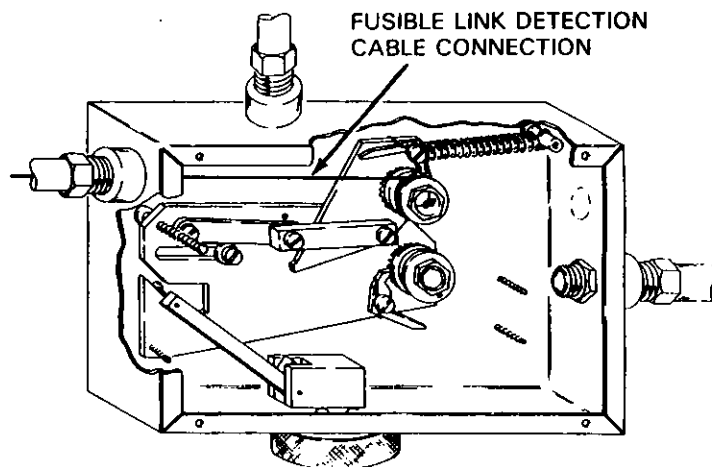

Figure 4-2. Control Head, Fusible Link Control
2. Fusible Link Control — The Pyro Chem control head also provides a connection for fusible link detectors, Model FLK-1. These detectors are connected in series using 3/64 or 1/16 inch diameter stainless steel cable. The control head maintains a tension on the series of fusible links. If the tension is released for any reason (link melts), the control head will operate and actuate the system. The fusible link cable enters the control head in the upper left corner. (See Figure 4-2).